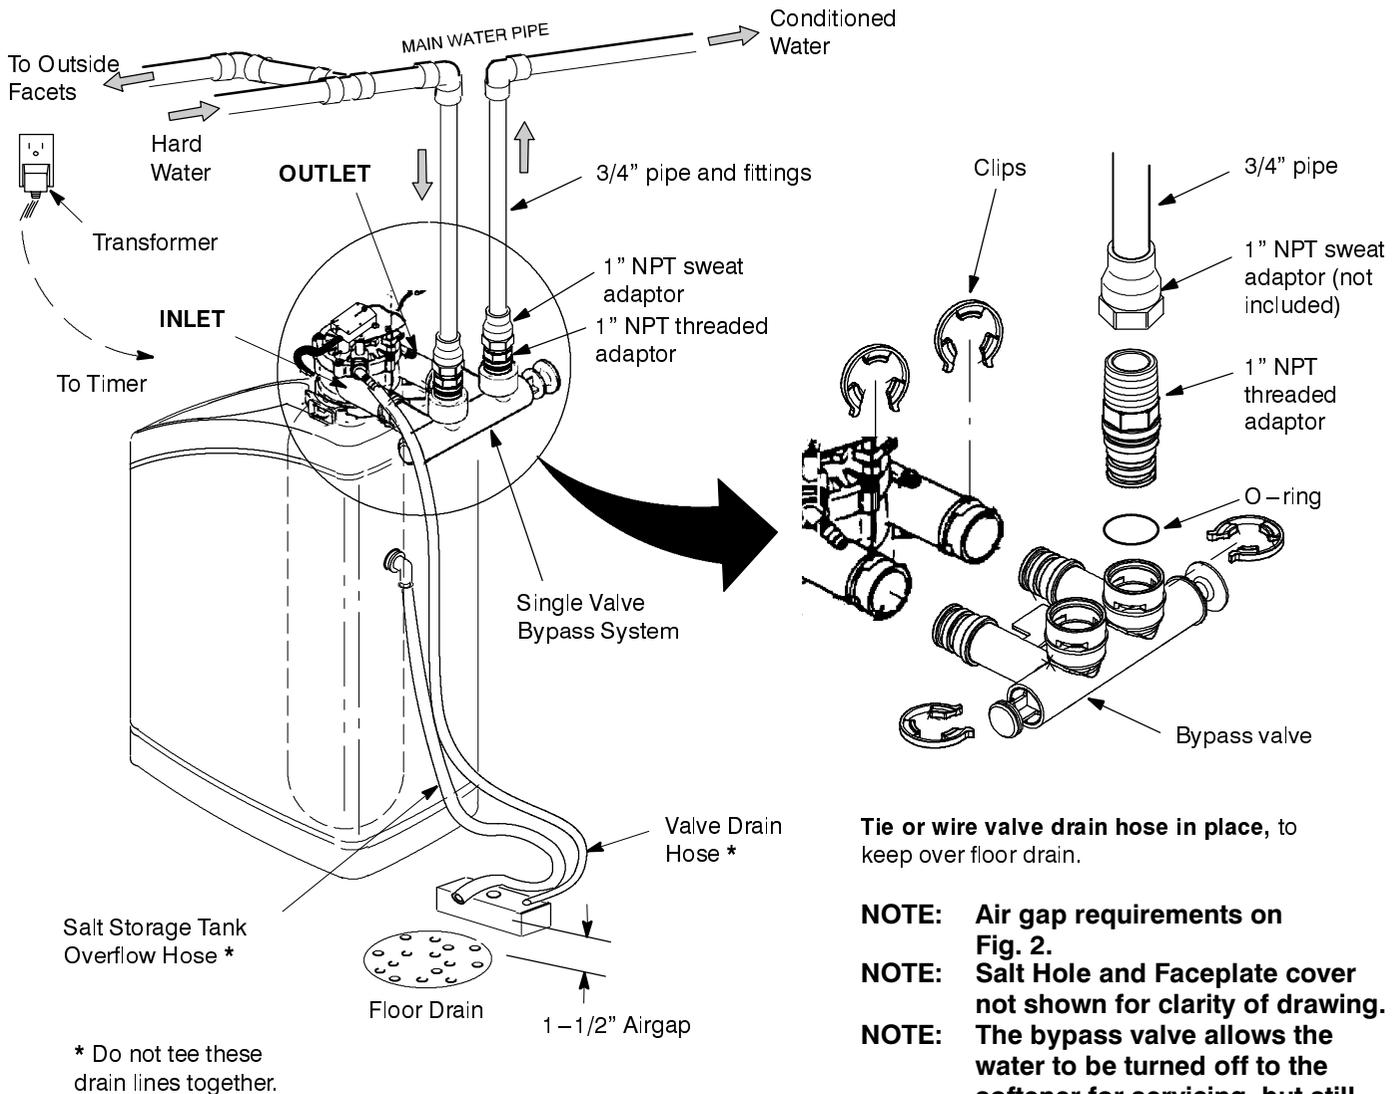

Figure 2
2. Run the hose to the floor drain, and as typically shown in Figure 2, tie or wire the end to a brick or other heavy object. This will prevent "whipping" during regenerations. **Be sure to provide a 1-1/2" minimum air gap, to prevent possible sewer water backup.**
1. Connect a length of 3/8" I. D. hose to the salt storage tank overflow elbow and secure in place with a hose clamp (see Figure 2).